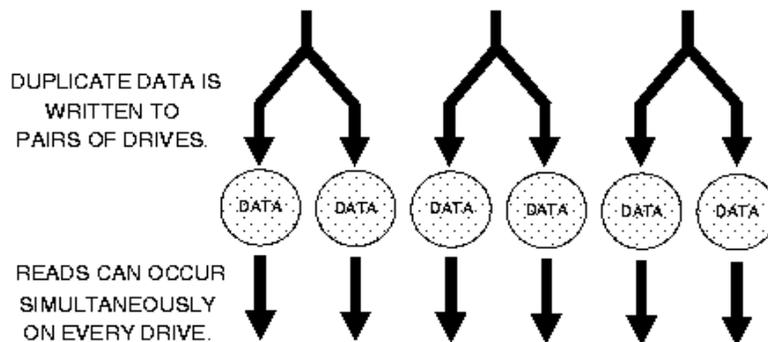

Figure 43. Mirrored Arrays
**RAID-1**, also known as disk mirroring, is simply a pair of disk drives which store duplicate data but appear to the computer as a single drive. Although striping is not used within a single mirrored drive pair, multiple RAID-1 arrays may be striped together to create a single large array consisting of pairs of mirrored drives. All writes must go to both drives of a mirrored pair so that the information on the drives is kept identical. Each individual drive, however, can perform simultaneous read operations. Mirroring thus doubles the read performance of a single un-mirrored drive and leaves the write performance unchanged. RAID-1 delivers the best performance of any redundant array type. In addition, there is less performance degradation during drive failure than in RAID-5 arrays, Figure 43.